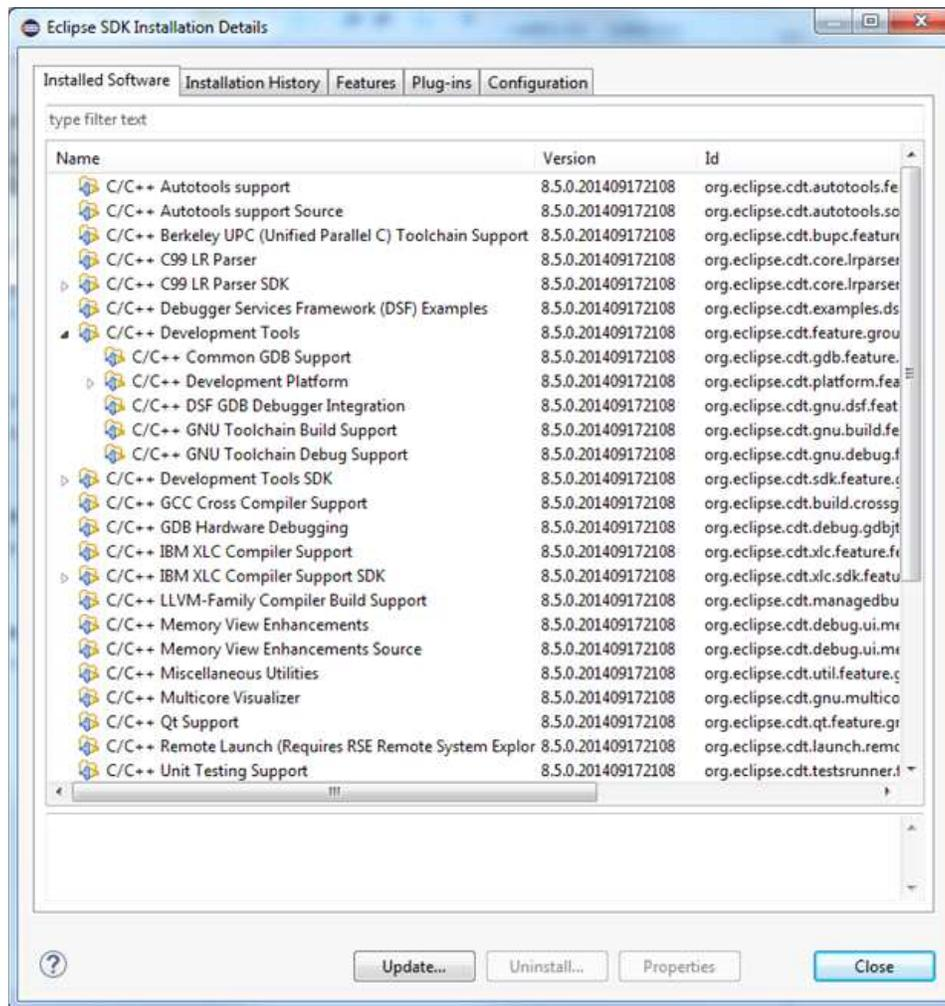

Figure 3. Installation Details
7. Verify that the CDT components are correctly installed. Navigate to Help → About Eclipse SDK and click 'Installation Details'. Make sure that the C/C++ Development Platform and the C/C++ GDB Hardware Debugging are both installed (see Figure 3).